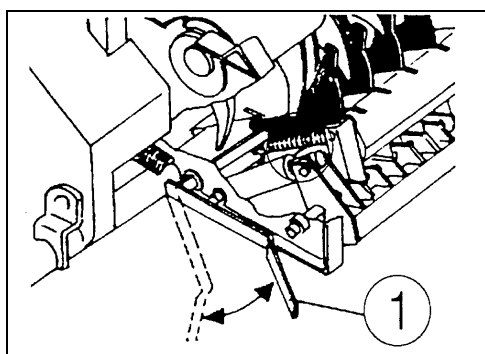

Fig. 39
4. Turn down the handle labeled "1" that is used to fasten the blades (figure 39) so that it is in a (maximum) 90° position relative to the side plate on the pickup.